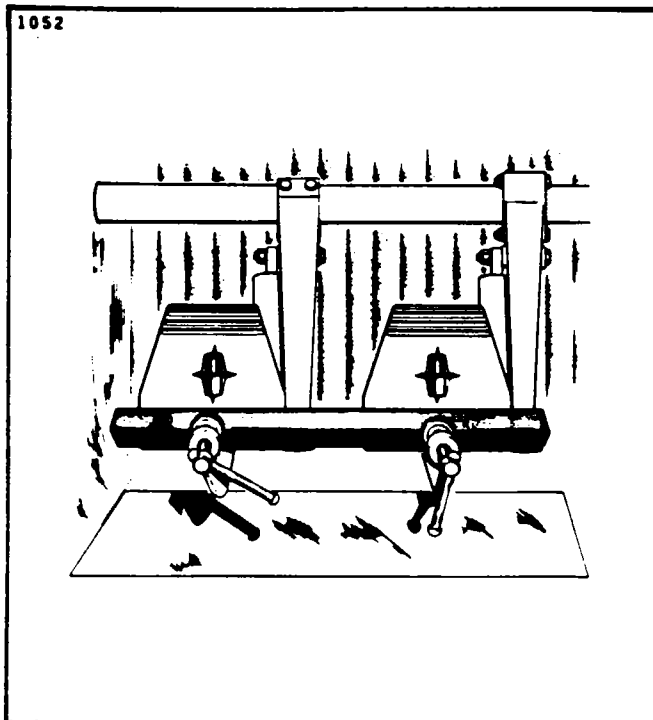
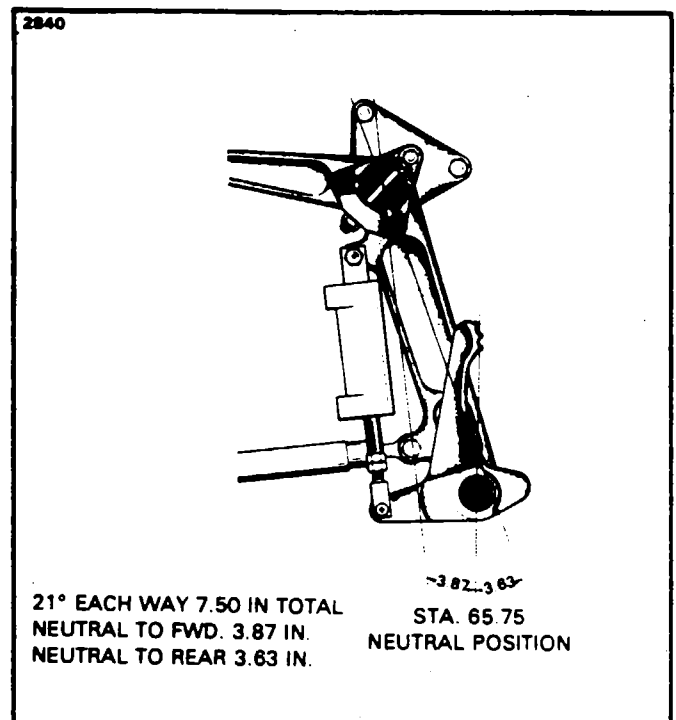

Figure 7-4. Clamping Rudder Pedals in Neutral Position
Figure 7-5. Rudder Pedals Neutral Angle
- g. Clamp rudder pedals to align in a lateral position. (Refer to Figure 7-4.)
- d. Clamp the rudder pedals to align in a lateral position. (Refer to Figure 7-4.) Adjust the rod end bearings of each steering control rod to align the plumb bob with the center line marked on the jig end to bring the pedals in neutral angle forward and aft. The neutral angle is at station 65.75 and center of the rudder pedal horizontal tube. (Refer to Figure 7-5.) Do not attempt to make the adjustment by means of one bearing, but divide the adjustment between the bearings at each end of the steering rods. Check that rod ends have sufficient gripping thread by ascertaining that a wire will not go through the check hole in the rod, and then tighten locknut.